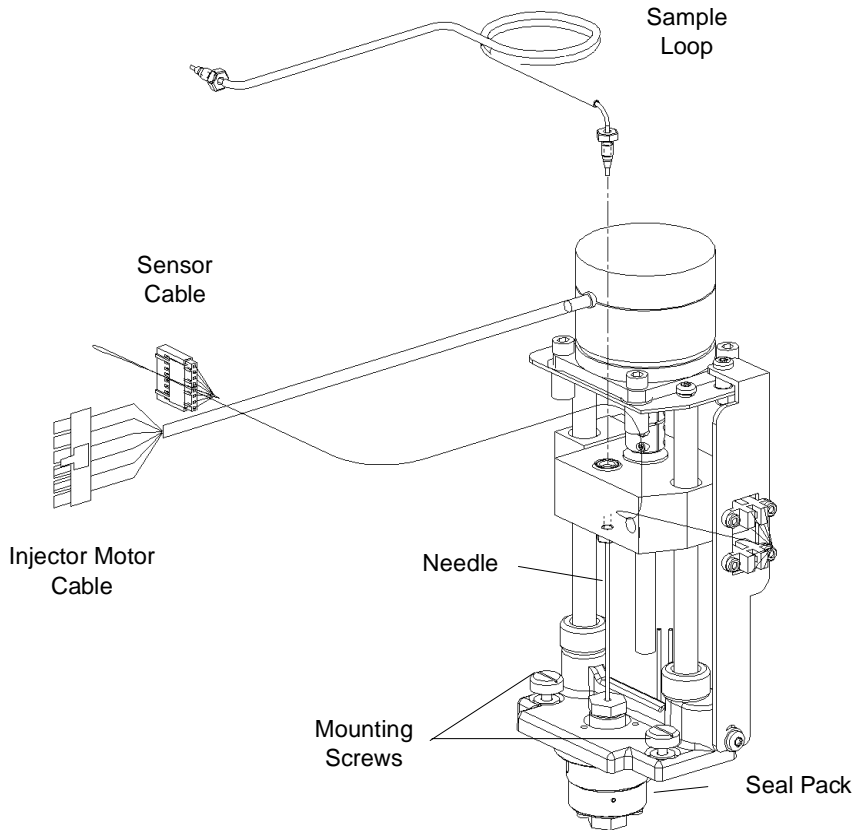

Figure 7-12 Removing the Injector
Needle (see <a href="#">Figure 7-12</a> )	Perforates the sample vial caps, draws sample, and injects the sample into the fluidic path.
Seal Pack (see <a href="#">Figure 7-12</a> )	Contains high-pressure seals and the needle wash system.
3. Disconnect the injector motor and sensor cables from the circuit board (Figure 7-12).
4. Use the long flat-blade screwdriver to loosen the two mounting screws securing the injector to the floor of the sample compartment (Figure 7-12).
5. Disconnect the sample loop from the injector (Figure 7-12).
6. Attach the injector to the floor of the compartment by tightening the two mounting screws (see Figure 7-12).
7. Connect the injector motor and sensor cables from the circuit board (see Figure 7-12).